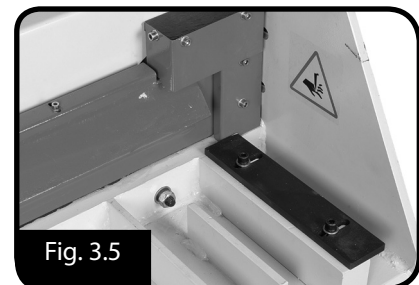

Fig. 3.5
- Place the squaring stop Fig 3.5 into position on the table top, securing into place with the bolts supplied. Check that the square stop is square to the blade. Adjust by loosening the bolts and moving by the amount allowed by the clearance of the holes.